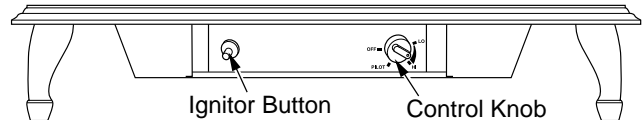

Figure 31 - Control Knob and Ignitor Button Location
- Wait five (5) minutes to clear out any gas. Then smell for gas, including near the floor. If you smell gas, **STOP!** Follow "B" in the safety information above. If you don't smell gas, go to the next step.
- Slightly depress and turn control knob counterclockwise  to the PILOT position. Keep control knob pressed in for five (5) seconds (see Figure 31). **Note:** You may be running this heater for the first time after hooking up to gas supply. If so, the control knob may need to be pressed in for 30 seconds. This will allow air to bleed from the gas system.